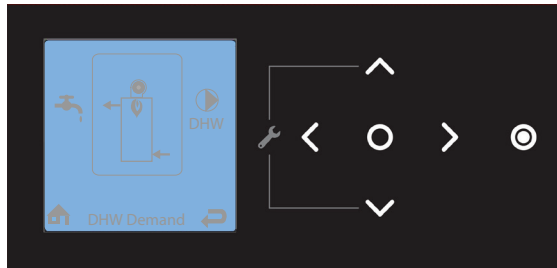

Figure 6 CTRLMax Navigation Control
1. Refer to Figure 6. Press, and hold, the UP and DOWN buttons together.
1. Press the UP and DOWN buttons at the same time, for three seconds to get access to the installer functions menu. Refer to Figure 6.